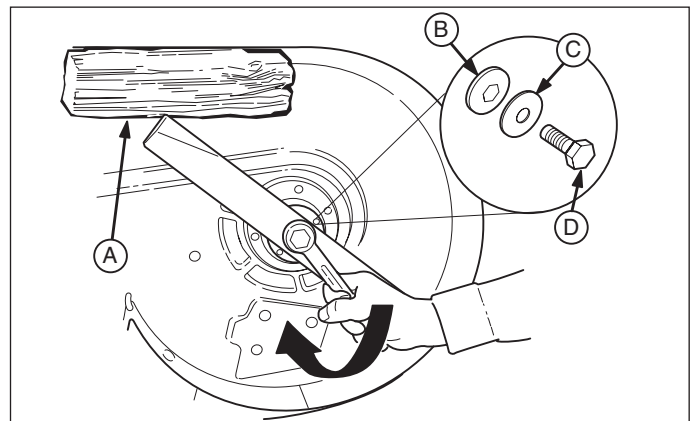

Figure 16. Blade Installation
3. Remove the capscrew (D, Figure 16), spring washer (C), hex washer (B), and blade.
6. Reinstall the blade (Figure 16) with the tabs pointing up toward the mower deck as shown.
7. Reinstall the hex washer (B, Figure 16), spring washer (C) and capscrew (D). Use a wooden block (A) to prevent blade rotation while tightening the capscrew (D) to 45-55 ft. lbs. (61-75 N.m).